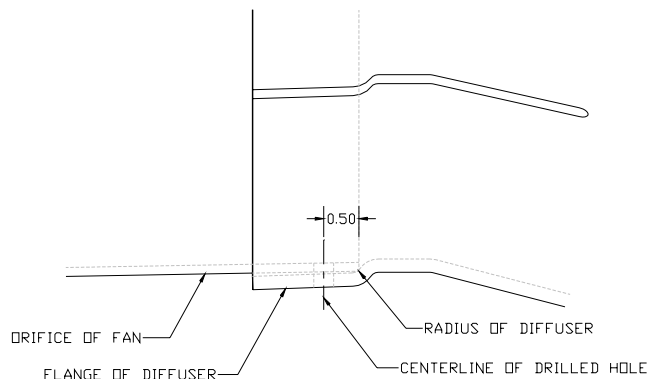

FIGURE 4
Slide the diffuser around the outside of the orifice until the orifice touches the radius of the diffuser. See Figure 4. Drill (6) 9/32" holes into diffuser flange (one in the center of each notched section on the diffuser flange). Start these holes from the orifice side (from the inside, drill the fiberglass orifice first and the diffuser second). The (6) holes should be approximately 1/2" from the edge of the orifice on the fan, see Figure 4. Secure the diffuser flange to the orifice with 1/4" bolts (insert bolts from the inside of the orifice), lock nuts and washers provided.